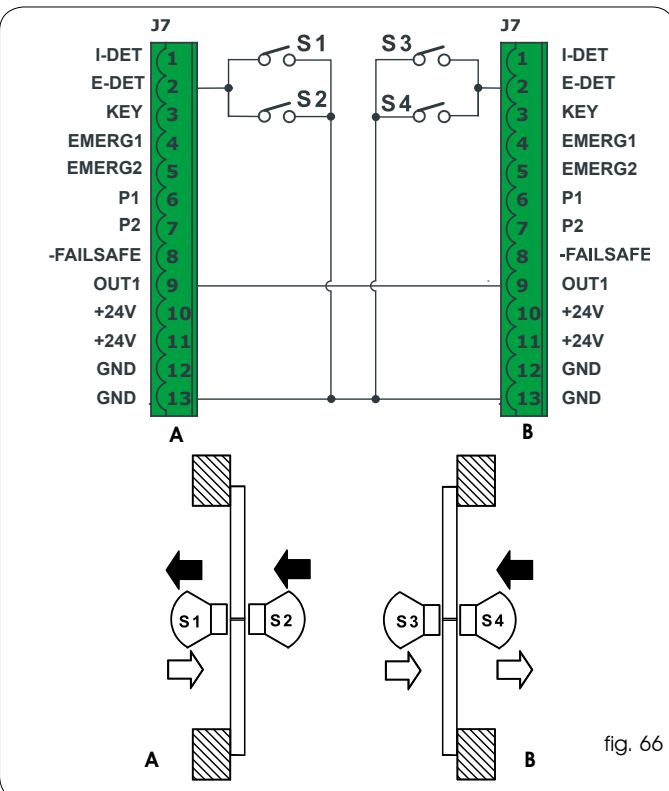

fig. 66
- Make the connections between the J6 terminal boards of the two control boards and the sensors as shown in figure 66.